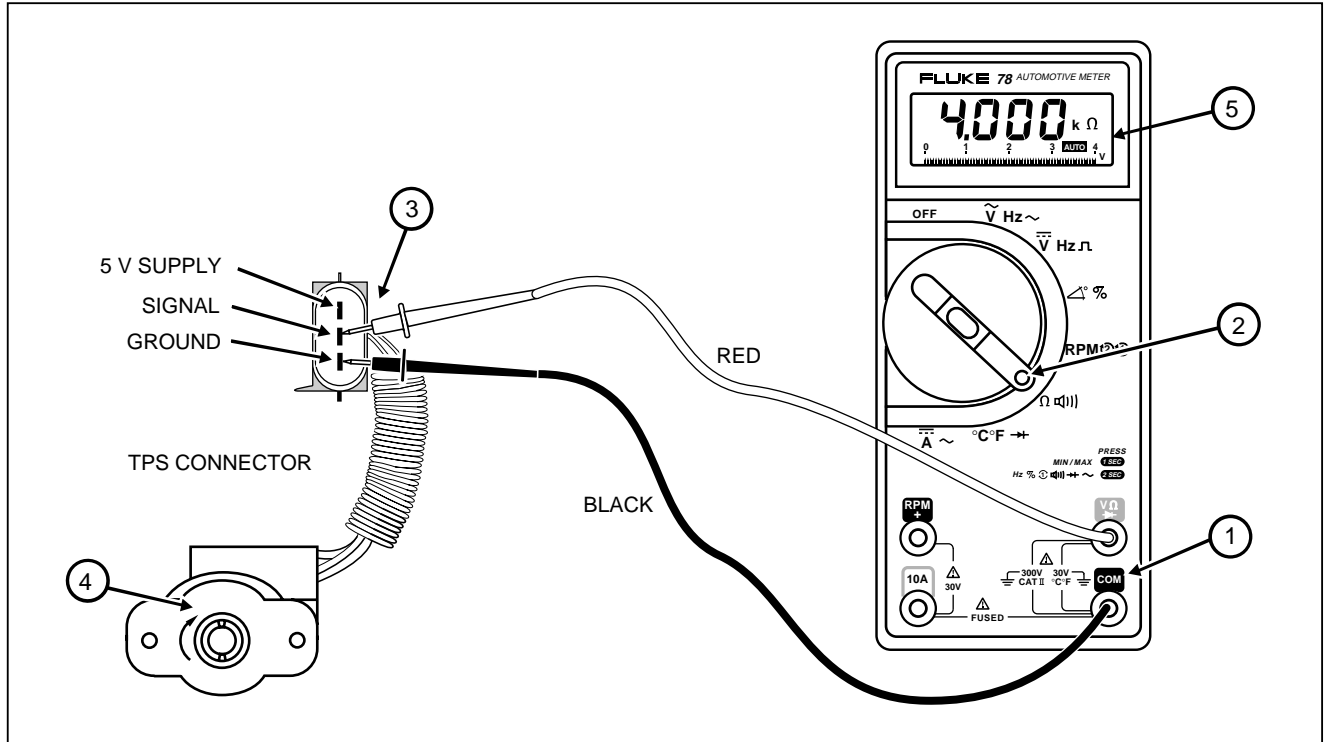

Figure 17. Using Bar Graph to Observe Sweep of Throttle Position Sensor (TPS)
1. Insert the test leads in the jacks (Figure 17).